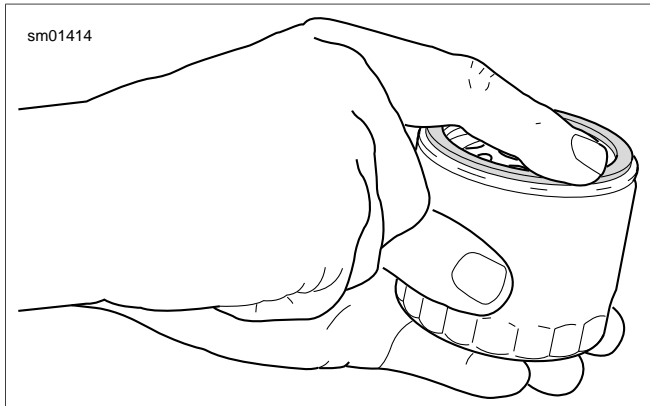

Figure 1-5. Lubricating New Oil Filter Gasket
5. See Figure 1-5. Lube the gasket on **new** oil filter with engine oil and install **new** filter. Hand tighten oil filter 1/2 to 3/4 turn after gasket contacts filter mounting surface. Do NOT use oil filter wrench for oil filter installation.